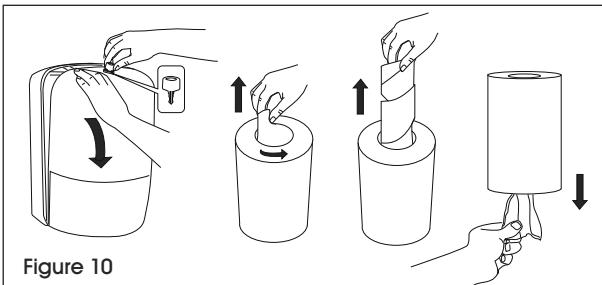

Figure 10
1. Remove core from center of roll. Find end of cardboard, peel corner up and pull straight up. First sheet of paper will be attached to core. Tear sheet off and dispose of core. (See Figure 10)